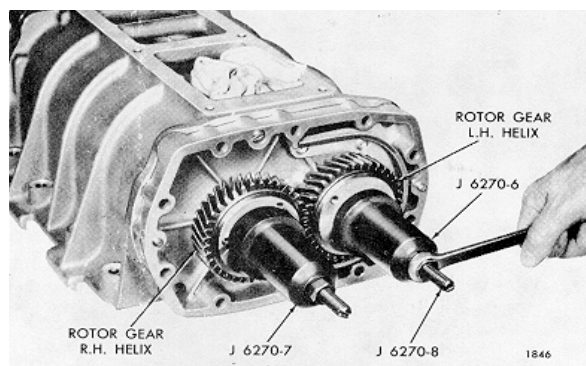

Fig. 24. Installing Rotor Gears on Rotor Shafts for Preliminary Check of Clearances
- g. Thread an installer screw J 6270-8 in the end of each rotor shaft until it bottoms. Place gear installer J 6270-7 over the installer screw and against the right-hand helix gear, and gear installer J 6270-6 over the installer screw and against the left-hand helix gear; then, thread a nut on each installer screw (Fig. 24).
- h. Place a clean shop towel between the rotors, and another one between the rotor and the housing to prevent the rotors from turning. Then turn the nuts on the installer screws clockwise as shown in Fig. 24 and press the gears into position tight against the shims and bearing inner races.
- i. Thread an installer screw J 6270-8 in the end of the rotor shaft until it bottoms. Place the installer J 6270-6 over the screw and against the gear, and thread a nut on the installer screw. Then, turn the nuts on the installer screws uniformly clockwise and press the gears into position tight against the shims and bearings as shown in Fig. 24.